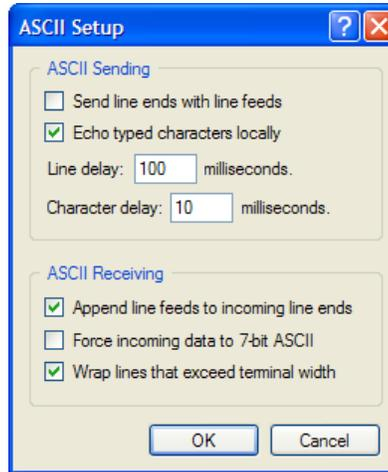

Figure 86. ASCII Setup Window
- 7 Select the parameters shown in **Figure 86**: